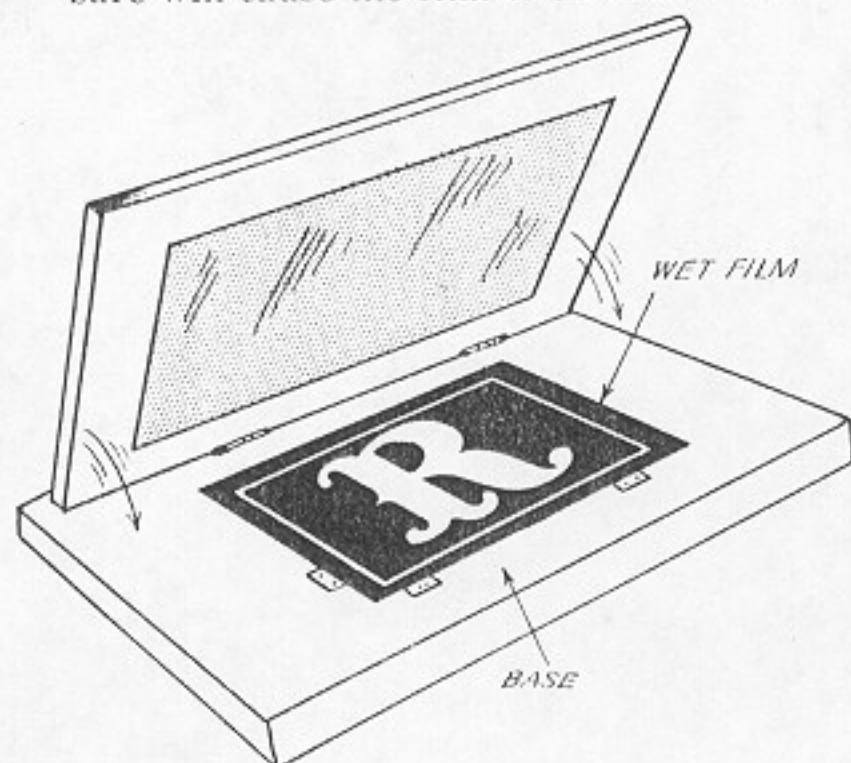

Fig. 144. Place Film in Register
11. Place the wet film in register on the screen base, gelatin side up, Fig. 144.